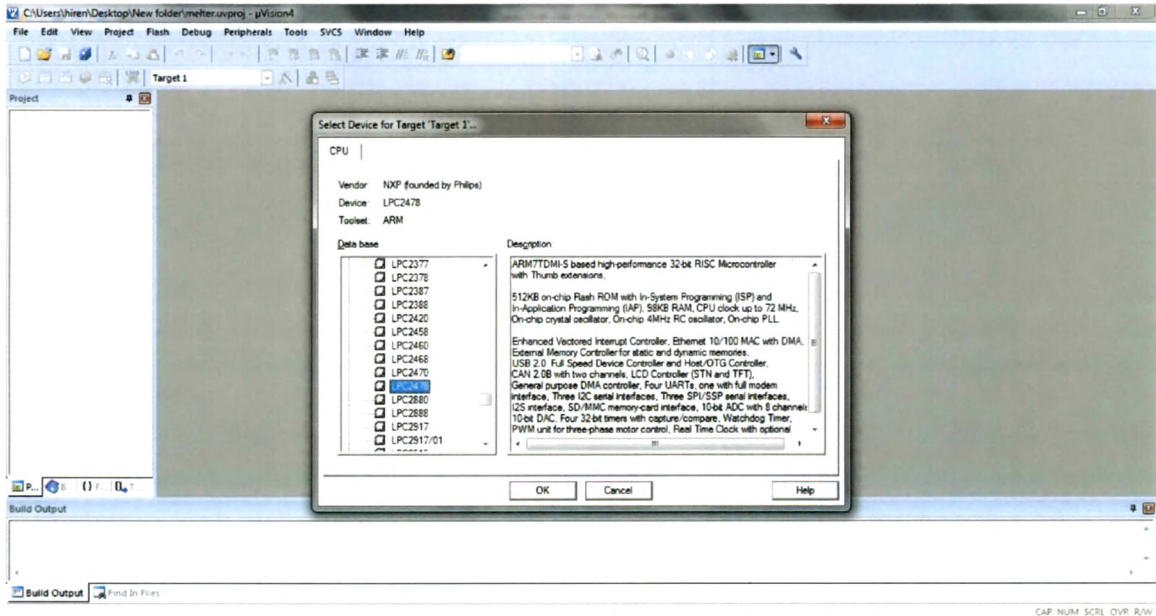

Figure A-3 New Project wizard
- 3. Provide name and location for the project as shown in Figure A-3.